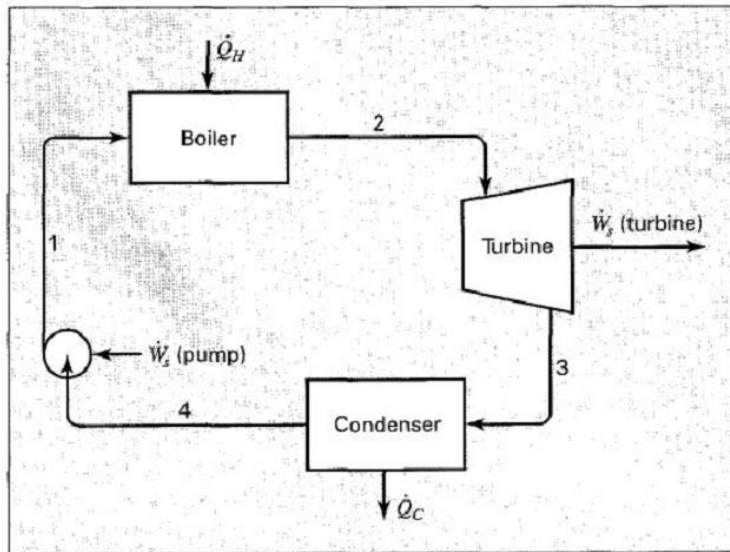
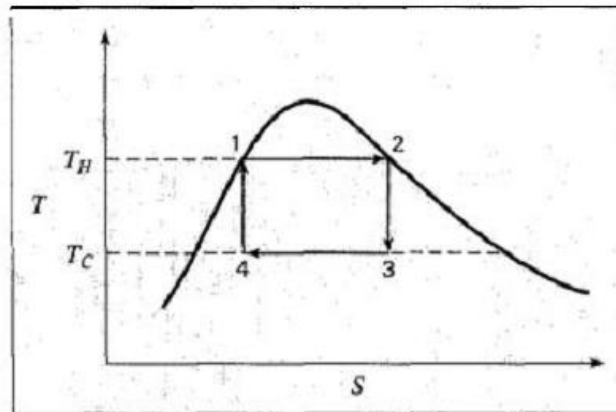
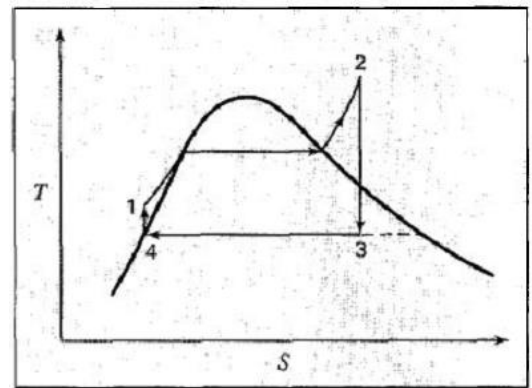

Figure 8.1 Simple steam power plant
Figure 8.2 Carnot cycle on a TS diagram
Figure 8.3 The Rankine cycle
Figure 8.1 shows a simple steady-state steady-flow process in which steam generated in a boiler is expanded in an adiabatic turbine to produce work. The discharge stream from the turbine passes to a condenser from which it is pumped adiabatically back to the boiler. The power produced by the turbine is much greater than the pump requirement, and the net power output is equal to the difference between the rate of heat input in the boiler $|\dot{Q}_H|$ and the rate of heat rejection in the condenser $|\dot{Q}_C|$
The processes that occur as the working fluid flows around the cycle of Fig. 8.1 are represented by lines on the TS diagram of Fig. 8.2. The sequence of lines shown conforms to a ***Carnot cycle***. Step 1 - 2 is the vaporization process taking place in the boiler, wherein saturated liquid water absorbs heat at the constant temperature T_H , and produces saturated vapor. Step 2 - 3 is a reversible, adiabatic expansion of saturated vapor into the two-phase region to produce a mixture of saturated liquid and vapor at T_C . This isentropic expansion is represented by a vertical line. Step 3 - 4 is a partial condensation process wherein heat is rejected at T_C . Step 4 - 1 takes the cycle back to its origin, producing saturated-liquid water at point 1. It is an isentropic compression process represented by a vertical line.
For these reasons, an alternative model cycle is taken as the standard, at least for fossil-fuel-burning power plants. It is called the Rankine cycle, and differs from the cycle of Fig. 8.2 in two major respects. First, the heating step 1 - 2 is carried well beyond vaporization, so as to produce a superheated vapor, and second, the cooling step 3 - 4 brings about complete condensation, yielding saturated liquid to be pumped to the boiler. The Rankine cycle therefore consists of the four steps shown by Fig. 8.3, and described as follows:
- 2 - 3 Reversible, adiabatic (isentropic) expansion of vapor in a turbine to the pressure of the condenser. The step normally crosses the saturation curve, producing a wet exhaust. However, the superheating accomplished in step 1- 2 shifts the vertical line far enough to the right on Fig. 8.3 that the moisture content is not too large.
- 4 - 1 Reversible, adiabatic (isentropic) pumping of the saturated liquid to the pressure of the boiler, producing compressed (subcooled) liquid. The vertical line (whose length is exaggerated in Fig. 8.3) is very short, because the temperature rise associated with compression of a liquid is small.